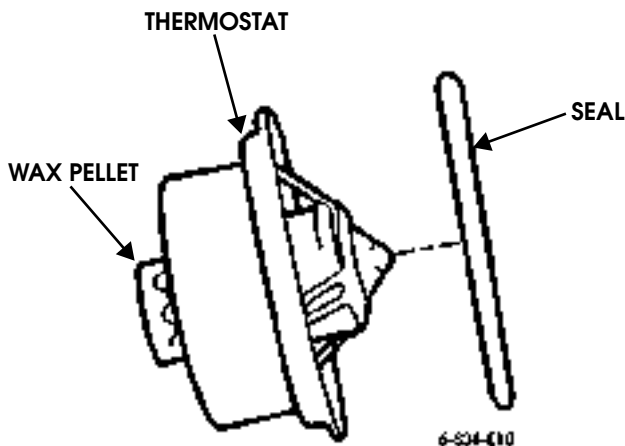

Figure 4-23: Turbo Diesel Thermostat
4. Remove both thermostats (Figure 4-23).